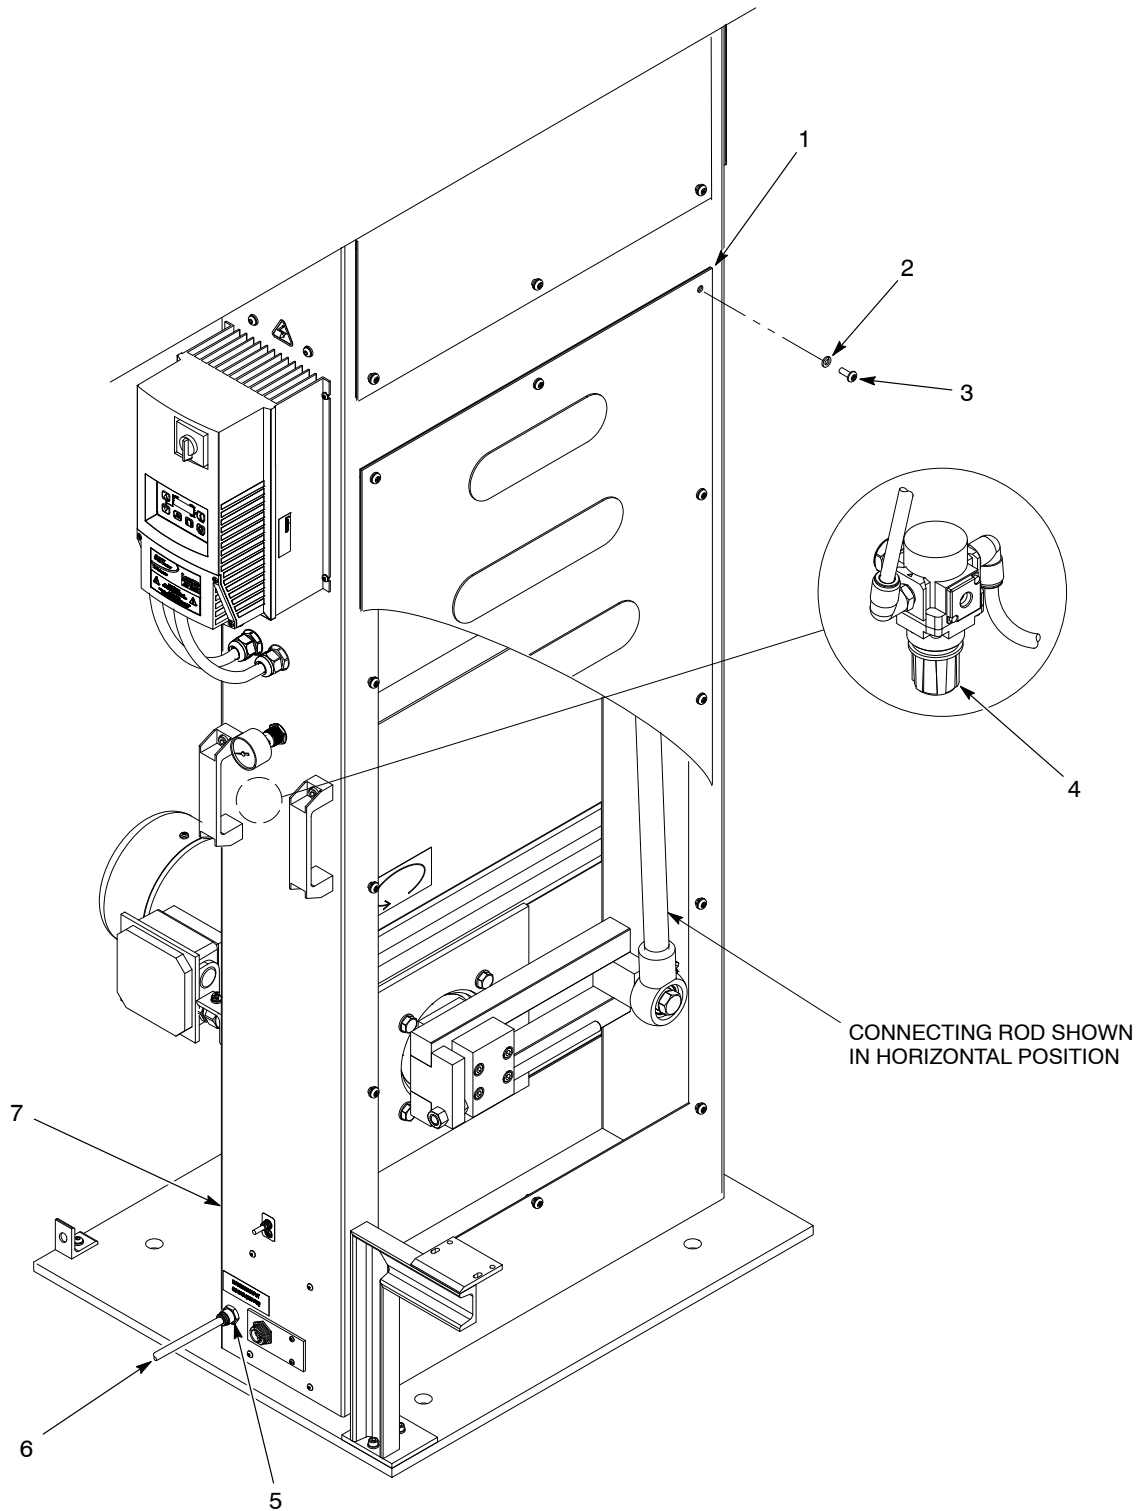

Figure 8 Supply Air Connection
1. See Figure 8. Connect an 8-mm supply air line (6) to the air fitting (5) on the oscillator (7).